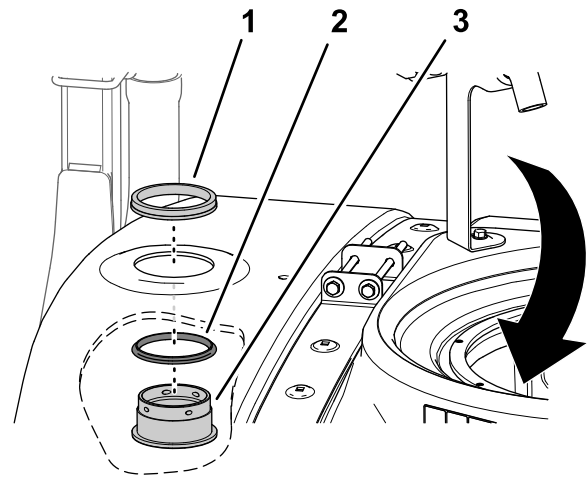

Figure 27
1. Install the seal over the bulkhead fitting (Figure 27).
2. Install the bulkhead fitting and the seal through the hole that you created in Drilling the Tank (page 14), from inside the tank (Figure 27).
3. Secure the bulkhead to the tank with the locking ring (Figure 27).